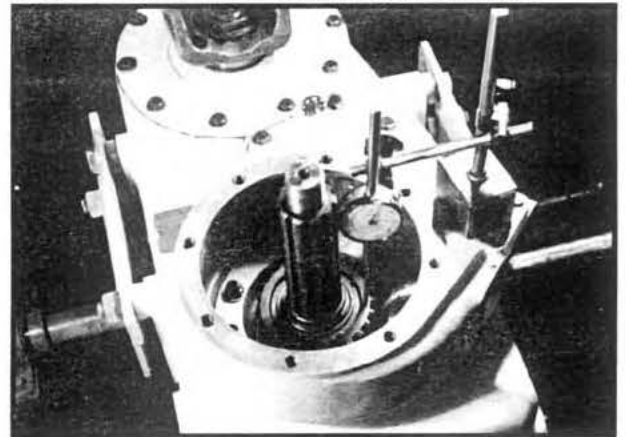

Fig 61
6. Lower the rear output shaft assembly into position with a new gasket. The work "TOP" on the rear carrier must be toward the top of the transfer case as installed in the vehicle. Torque the (10) 12-point cap screws to specification.
8. Install a dial indicator such that the indicator tip rests against the end of the clutch gear as shown in Figure 61. Pry the lower shaft assembly up and down several times to be sure that the front bearing cup is seated. The prying must be done on the clutch gear, not at the rear output shaft. Note the indicated shaft end float. If the end float is not within specification (.003 to .008 in.), the shim pack should be removed and replaced with a combination of shims which will provide the specified end float. See Item 16 on P. 13 or 14 in the parts manual for a list of available shims. Be sure to recheck the end float afterwards.